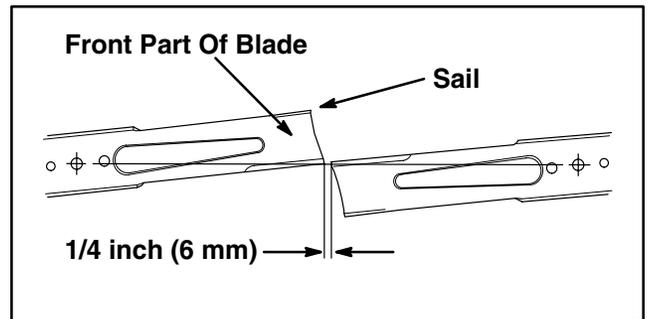

Figure 27
- E. Rotate adjacent blades until cutting edge tips are aligned directly across from each other as shown in figure 27.